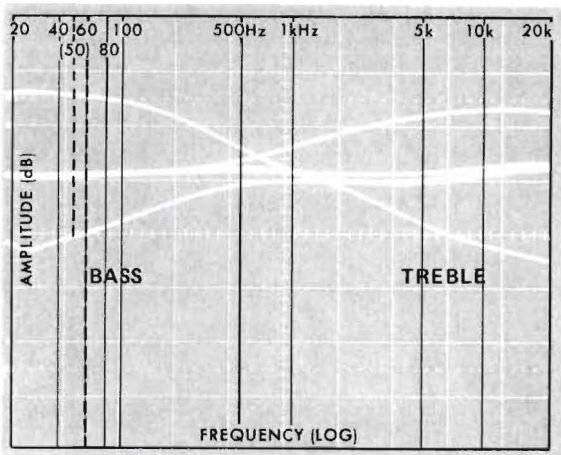

Figure 15 Tone Control Ranges
- 8. The range and effect of the tone control and filters can be checked by varying these controls. If the 5L4N mainframe has storage or a camera is available, sequential displays of responses can be "built up" as shown in Figure 15.